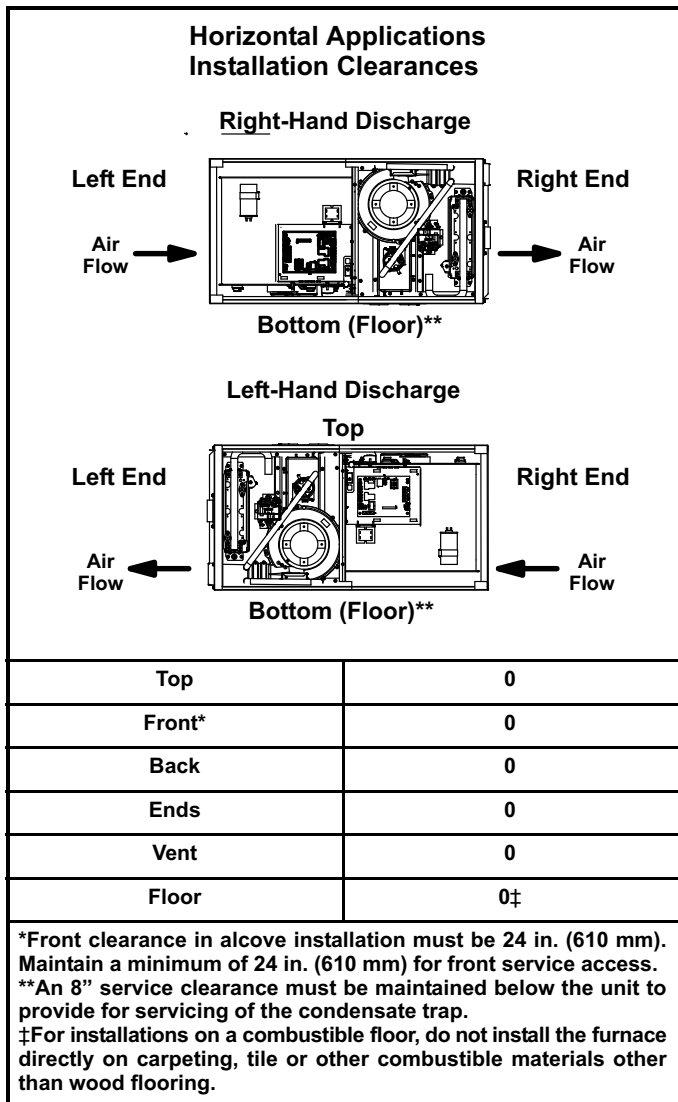

FIGURE 15
Refer to figure 15 for clearances in horizontal applications.
- 1 - Select location for unit keeping in mind service and other necessary clearances. See figure 15.